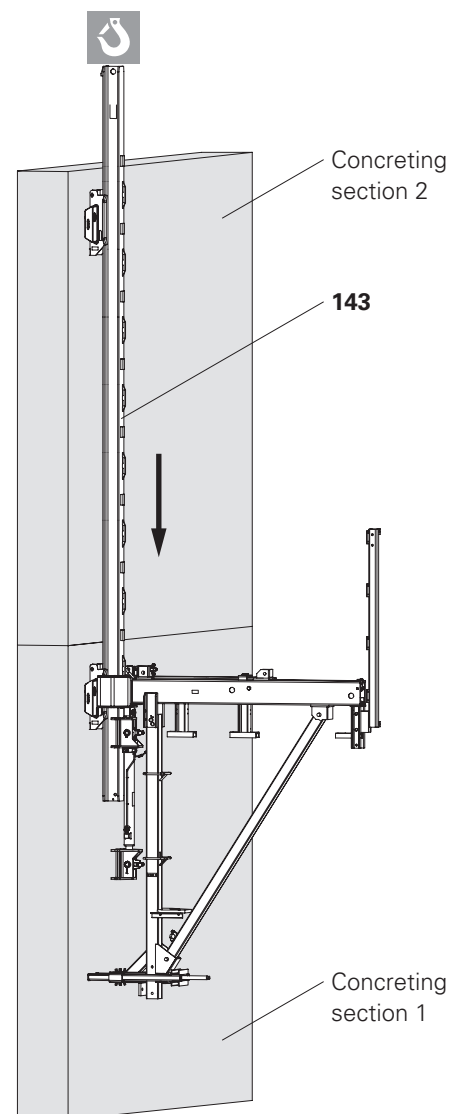

Fig. C6.05
- For a better overview, a simplified illustration is chosen for Fig. C6.05.